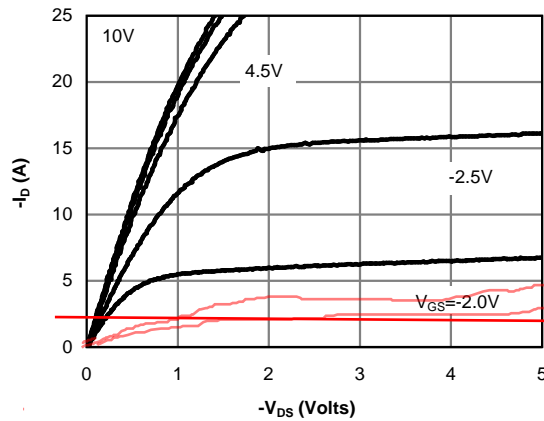

Figure 1: On-Region Characteristics (Note E)
E. The static characteristics in Figures 1 to 6 are obtained using <300μs pulses, duty cycle 0.5% max.